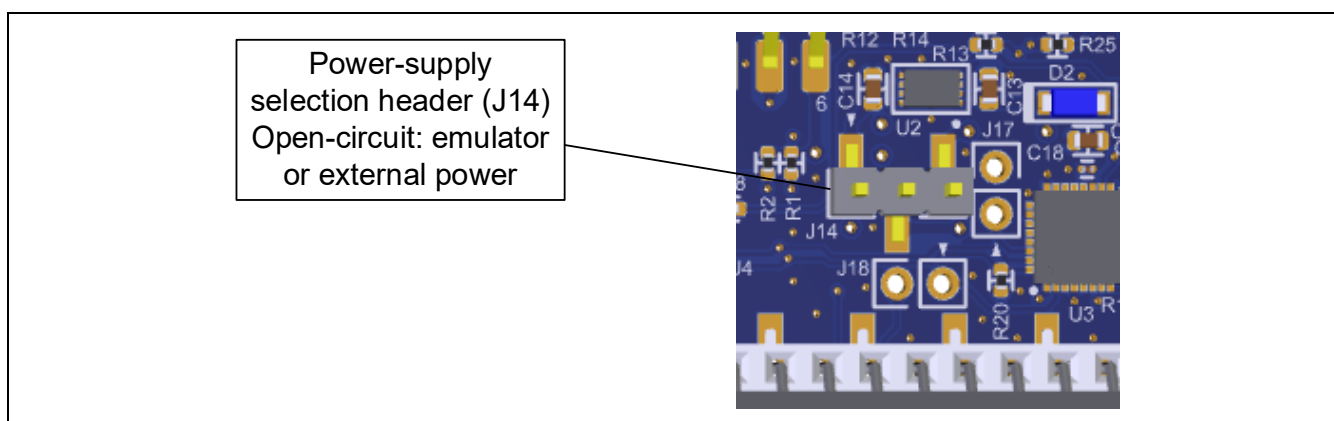

Figure 5-20 Setting of the Header to Select Supply from the Emulator or External Power
- J14 being open-circuit selects supply from the emulator or external power. (Figure 5-20).